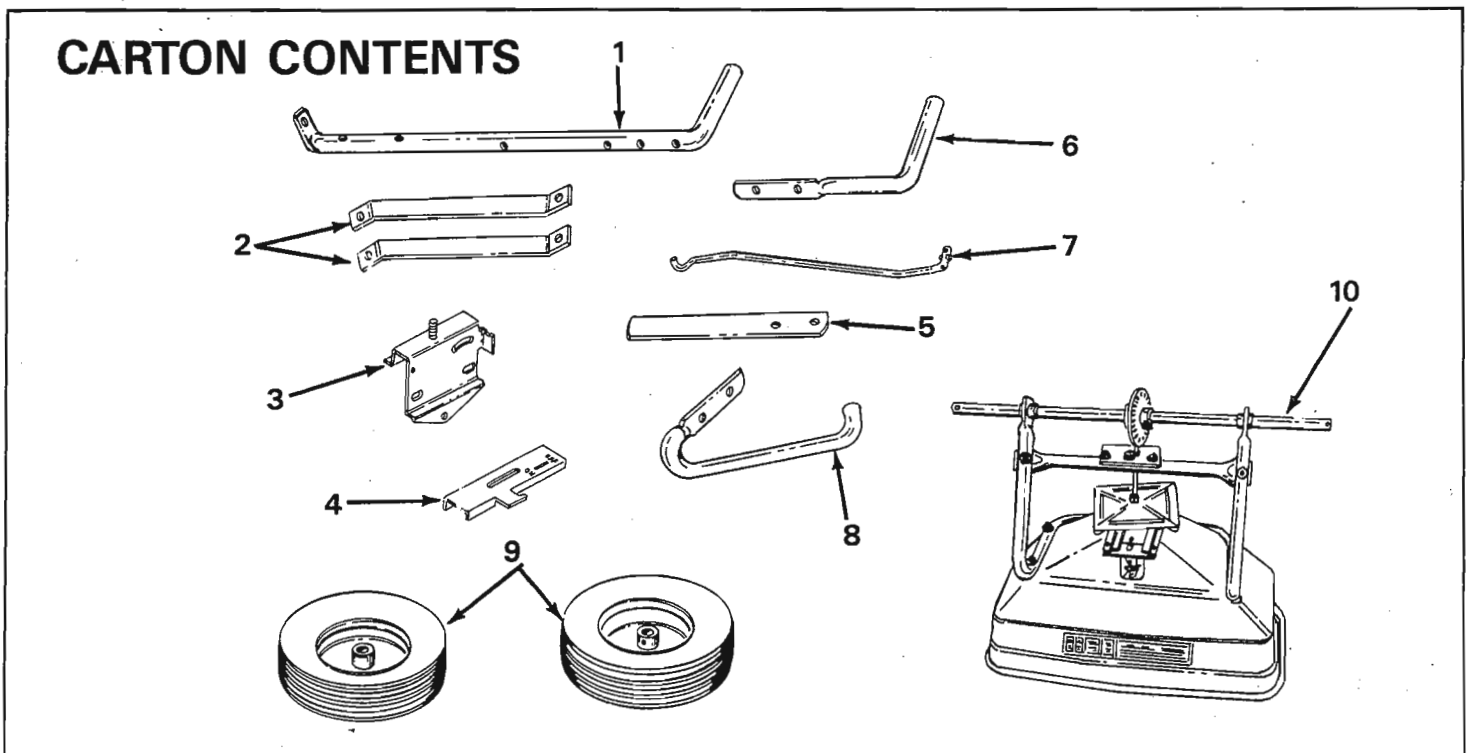

FIGURE 1
Your broadcast spreader carton contains parts as shown in figure 1. The hardware package contains parts shown in figure 2 on page 3. Identify all parts any layout as shown in figures 1 and 2.
- 1. Remove the spreader, loose parts and hardware package from the carton. See figures 1 and 2.